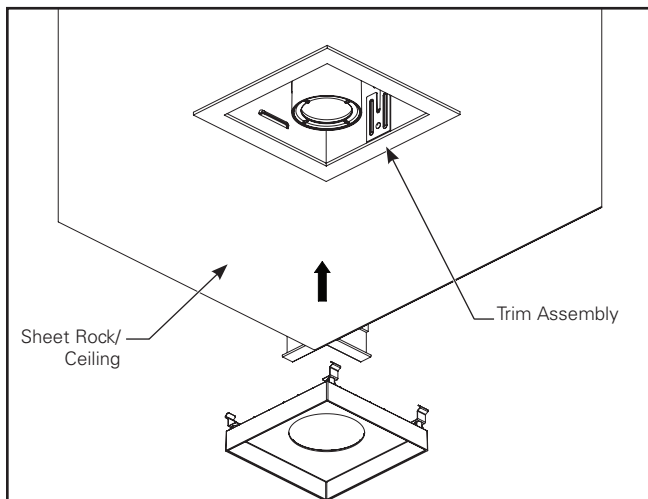

Figure 2.7.
- Install cover plate (baffle plate) into the housing. Push plate assembly up through trim while installing. Compress spring inwards so that plate assembly can push up into housing. (Figure 2.7)